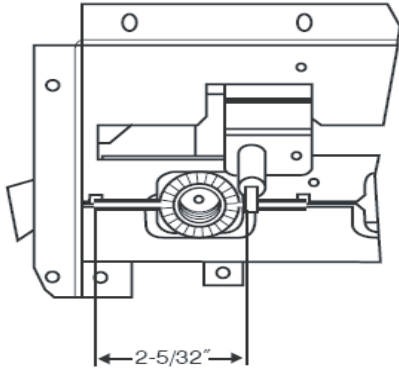

Fig. 14 – Igniter
11. If furnace fails to ignite properly, verify position of igniter (See Fig. 14) by removing the burner box assembly according to instructions in Step 4. After verifying and/or adjusting the location, re-install the burner box assembly according to the instructions in Step 4. Repeat igniter operation test in item 10.